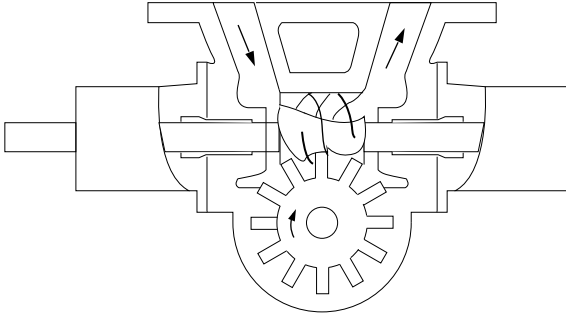

FIGURE 19. Screw and Wheel Pump
- The screw and wheel pump (Figure 19) depends upon a plate wheel to seal the screw so that there is no continuous cavity between the inlet and outlet.